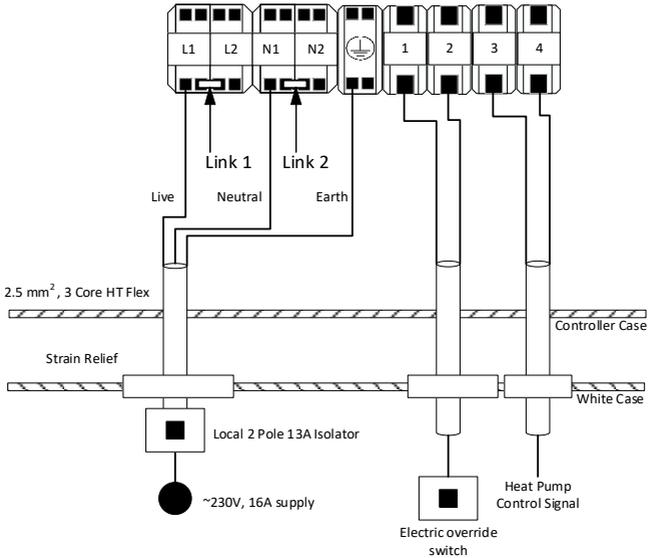

Figure 13.2: Wiring Option 2 – HW +iLTHP Daikin Low Temperature Heat Pump
- Wire a 2 core PVC insulated cable (minimum 0.75mm2 CSA, 24 x 0.2mm according to BS 6500) from a local 2-pole switch, run the wire into the appliance via the appliance case cabling grommets and then into the control box housing through the hole available. Secure the cables in Terminal T1 & T2 independently (Figure 13.2).
Wire a 2 core PVC insulated cable (3A, minimum 0.75mm2 CSA, 24 x 0.2mm according to BS 6500) from the Heat Pump Indoor Tank sensor connection "X9A (PCB A1P)" (please refer to Heat Pump manual), then run the wire into the appliance via the appliance case cabling grommets and then into the control box housing through the hole available. Secure the cables in Terminals T3 & T4 independently (Figure 13.2).